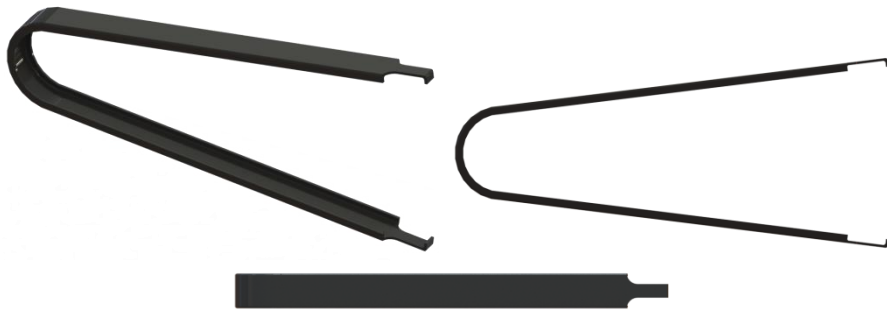
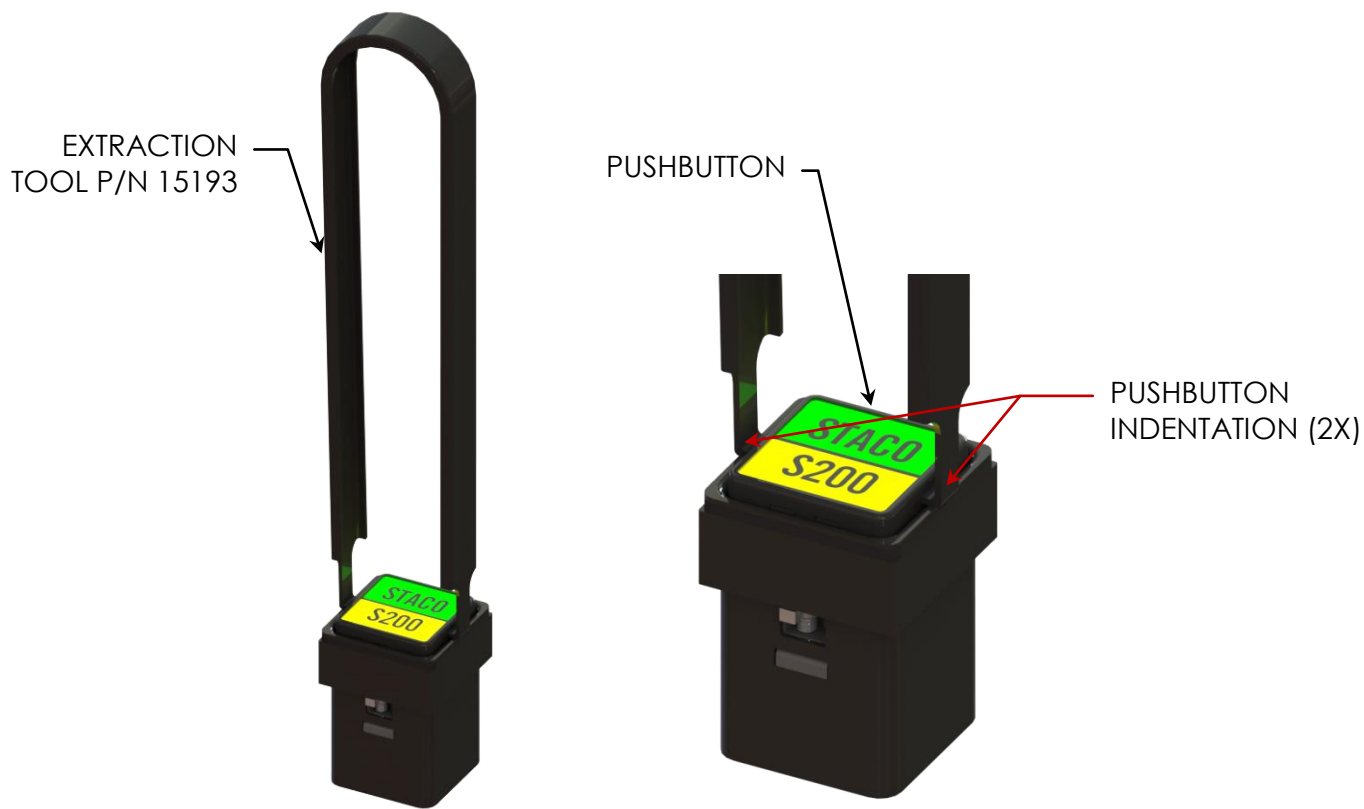

Figure 4: Pushbutton Extraction Tool (P/N 15193)
Figure 5: Pushbutton Extraction (crimp pin termination version shown)
Using pushbutton extraction tool, see Figure 4. position the tool's gripping tabs around the two indentations, located on the pushbutton's retainer as shown in Figure 5 and Detail B. Clamp/squeeze the tool gently, but firmly, and pull the pushbutton away from the switch / indicator housing. The removal force should be in the range of two (2) to five (5) pounds.